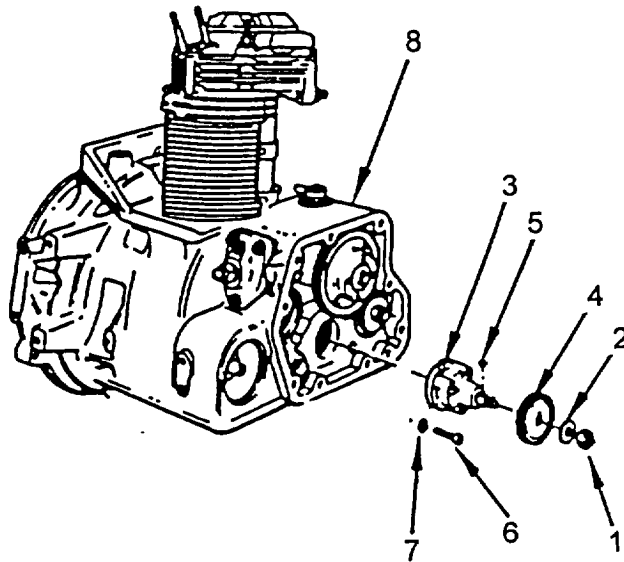

Figure 6-8. Oil Pump Replacement
a. Removal. (Refer to Figure 6-8).
- (1) Remove self-locking nut (1) and washer (2) from oil pump (3).
- (2) Pull oil pump drive gear (4) and key (5).
- (3) Remove three screws (6) and washers (7).
- (4) Remove pump (3) from crankcase (8).